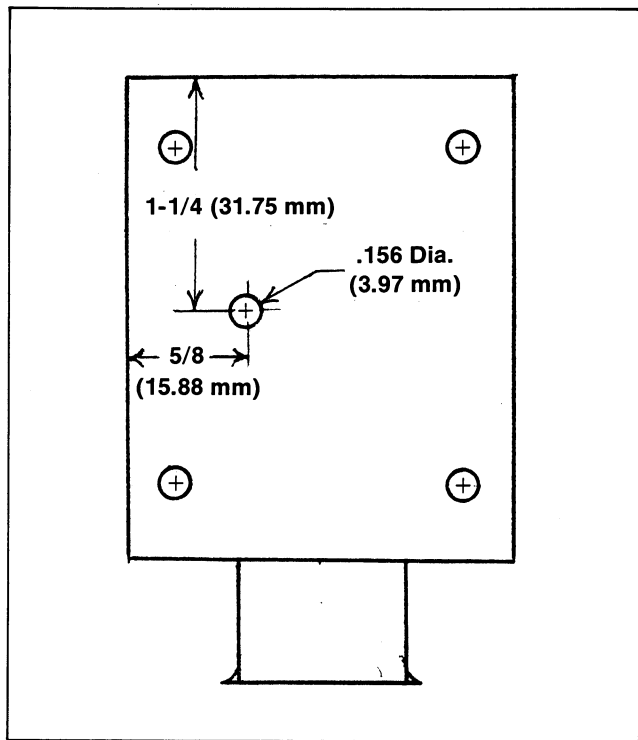

Figure 2-6. Rectifier Mounting Hole
- a. Drill a .156 in. (3.96 mm) dia. hole in yoke. For location see Figure 2-6. When drilling hole, coil must be removed to prevent damage to the coil windings. Remove any burrs.